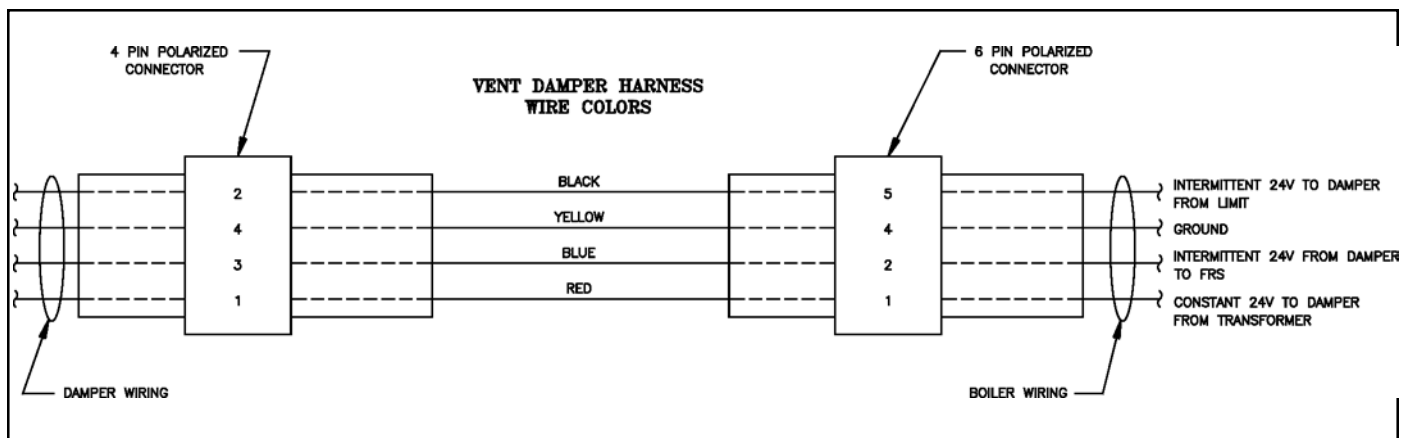

Figure 30: Vent Damper Schematic Wiring Diagram
F. Vent Damper Sequence of Operation. See Figure 30 for schematic wiring diagram.